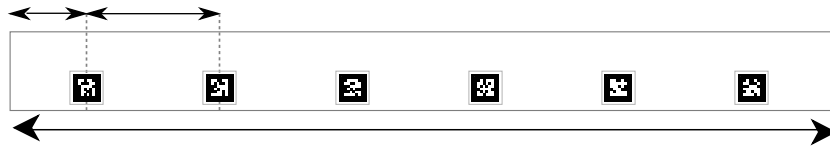

Figure 4: Six 250mm wide markers are spaced evenly along each 6m arena wall. The markers are placed 50mm above the floor.
- 3.2.5 Each wall of the arena features six 250mm libkoki markers. Figure 4 shows the positioning of these markers, whilst figure 3 shows the numbering of these markers.